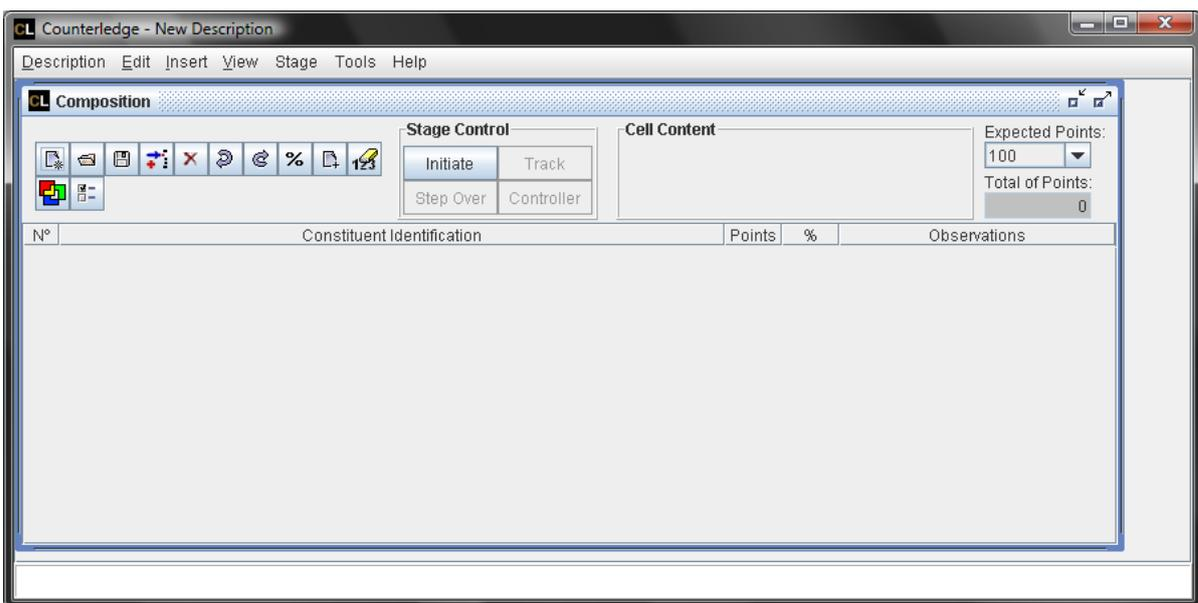

Figure 2.2. Main Interface
- Figure 2.2. Main Interface 7